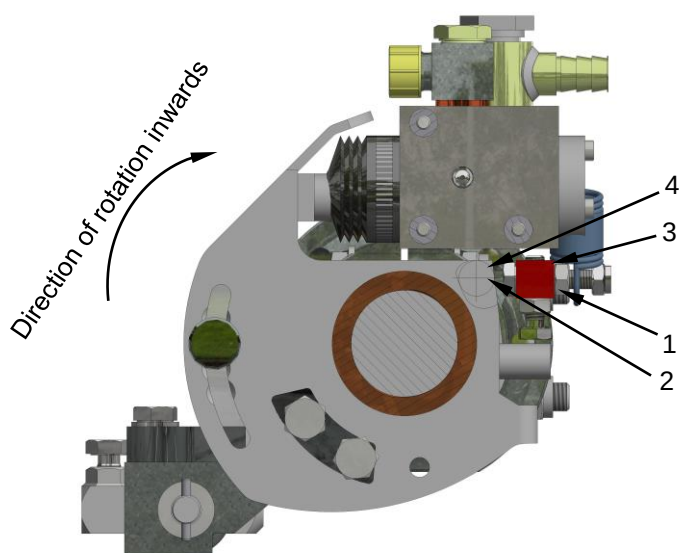

Figure 11 Sensor rod end stop inwards
a) Sensor rod end stop inwards (Figure 11):